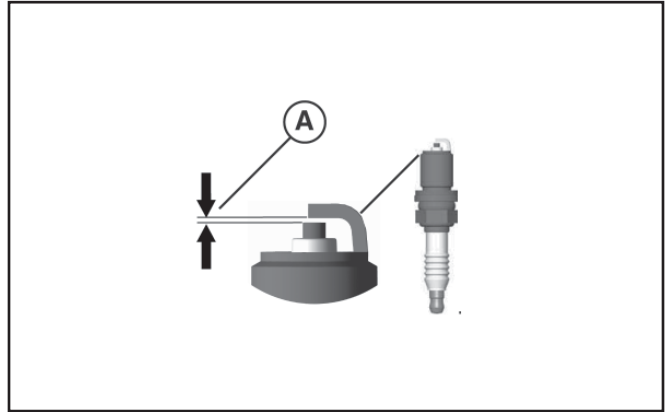

Figure 10
5. Check electrode gap with wire feeler gauge (A, Figure 10) and reset the spark plug gap to recommended gap if necessary.